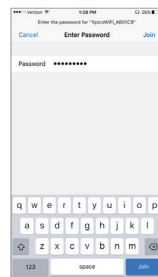

Figure 8: Network Security Password
4. After clicking Connect, enter "xpicowifi" in lower case as the network security password. Click on Join button to complete the connection. See Figure 8.